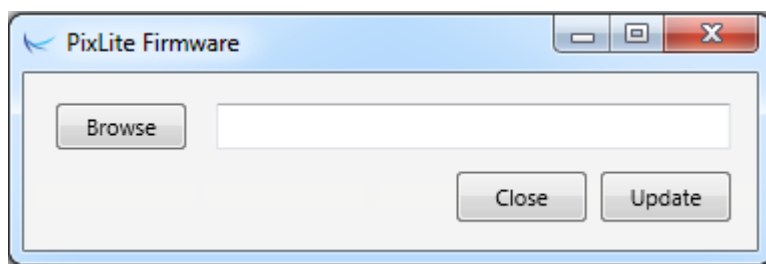

Figure 17
2. A configuration window will appear. Click on the "Misc" tab and then locate the "Upgrade Firmware" button and click on it. A "firmware update" window will appear (as shown in Figure 17). Click "browse" to locate the firmware file you wish to download.
4. Using the Advatek Configuration utility, click search in the main window and you should see the controller appear with “bootloader” in the firmware column. Double clicking on it will bring up the file browse window as shown in figure 17.